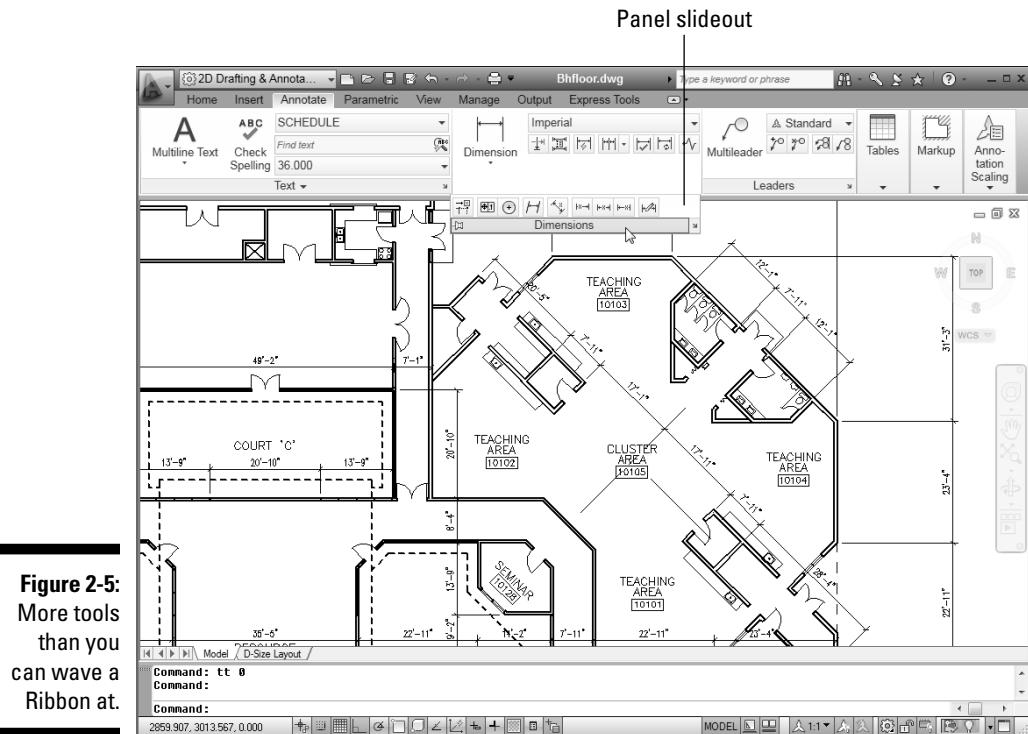

Figure 2-5:
The primary interface element in the 2D Drafting & Annotation, 3D Basics, and 3D Modeling workspaces is the *Ribbon*, an adjustable area that contains different collections of tabbed, task-oriented collections of panels. Some panels — those marked with a little black triangle on the panel label — have more tools concealed on a slideout (see Figure 2-5). Click the panel label to open the slideout. You can click the pushpin icon to pin the slideout open — otherwise, it will slide away home after you click a button.
- ✓ **Home:** The Home tab contains Draw, Modify, Layers, Annotation, Block, Properties, Utilities, and Clipboard panels. Some panels may be displayed as collapsed depending on your screen resolution (the Tables, Markup, and Annotation Scaling panels at the right end of the Annotate tab in Figure 2-5 is in a collapsed state). I cover most of the commands in these panels in other parts of the book.